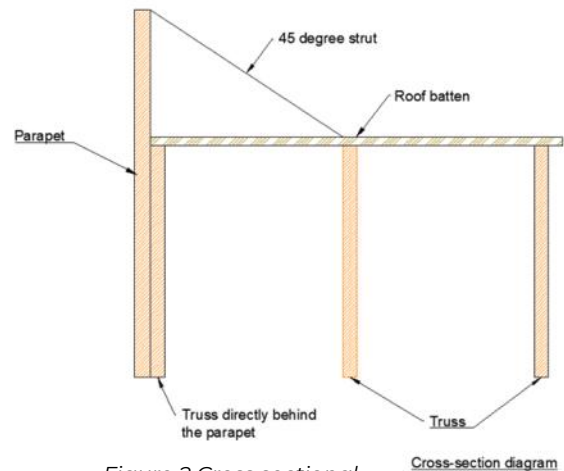

Figure 2 Cross sectional diagram
- Use 45-degree struts anchored back to the main truss or roof frame to provide mechanical restraint. It is recommended that struts be placed at centres no greater than 1800 mm (refer to Figure 2).
- Consider twin-truss detailing, where a parapet truss is reinforced with a second truss or a wailing plate directly behind it. These should be tied together with screws or nails at each crossover point to distribute the load and enhance capacity (refer to Figure 2).